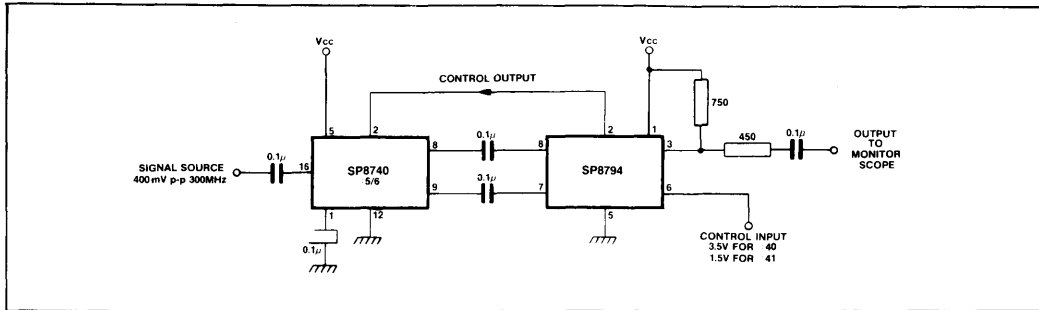

Fig. 4 Test circuit
2. The test configuration for dynamic testing is shown in Fig.4.
1. The device will normally be driven by capacitively coupling the clock inputs to the outputs of a 2-modulus divider. See Figs. 4 and 5. The maximum frequency of the device when used as a controller is limited by the internal delays and will not operate above 60MHz. When used as a prescaler the device will operate in excess of 120MHz, the maximum frequency being limited by saturation of the counter output stage.